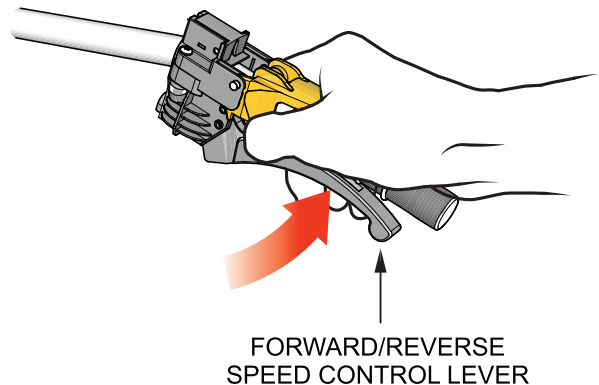

Figure 24. Forward/Reverse Speed Control Lever (Electric)
3. Slightly squeeze the **forward/reverse** speed control lever (Figure 24) until the Mini Dumper begins to move in a **forward** direction
6. Slightly squeeze the **forward/reverse** speed control lever (Figure 24) until the Mini Dumper begins to move in a **reverse** direction.